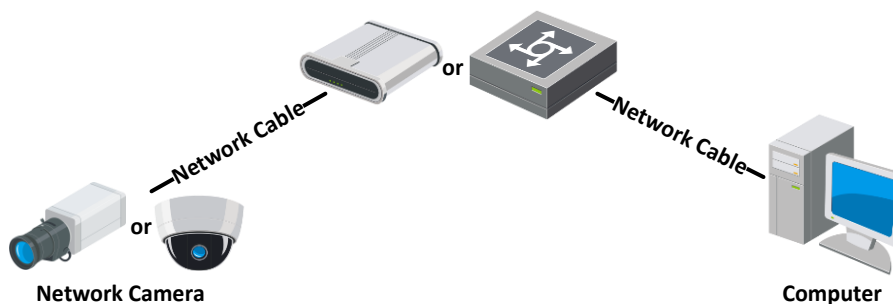

Figure 2-2 Connecting via a Switch or a Router
- Refer to Figure 2-2 to set network camera over the LAN via a switch or a router.